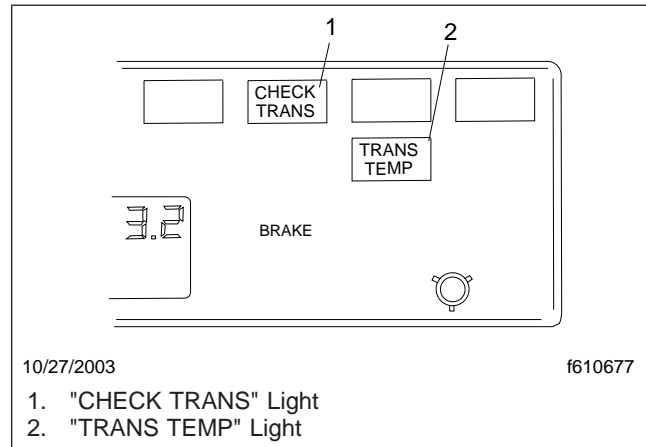

Fig. 8.5, Telltale Lights
1. With the parking brake set, select neutral (N) by moving the selector switch to the N position.
2. With the transmission in neutral, turn on the ignition switch. The "CHECK TRANS" and "TRANS TEMP" telltale lights come on and go out again (bulb check). See **Fig. 8.5**.